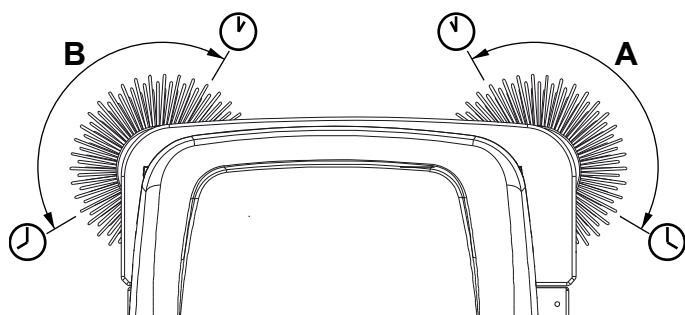

Figure 4
3. Turn the ignition key (66) and start the machine.
4. Lower the side broom with the lever (52) and let it run for 1 minute.
5. When lowered, the side brooms (9) (15, equipped on SR 1601 MAXI) should be contacting the floor as shown in the figure (A and B, Fig. 4).